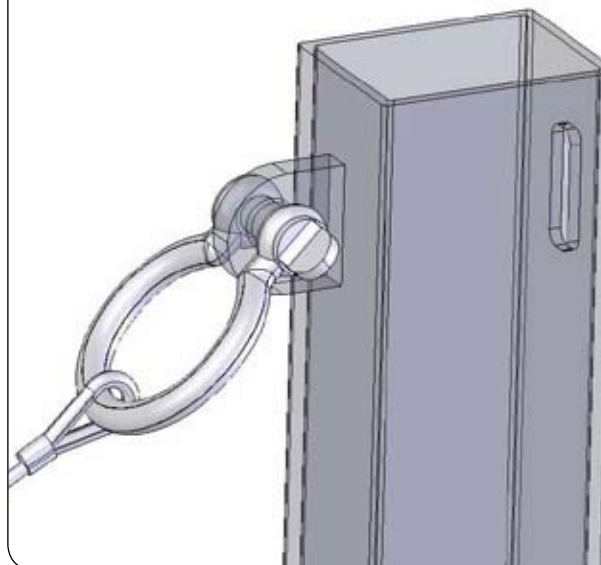

Fig. 4C Late Version cable-gin pole assembly details
- Late model gin pole only – connect the second cable to the welded tab on the gin pole using a shackle as shown in **Fig 4C**.